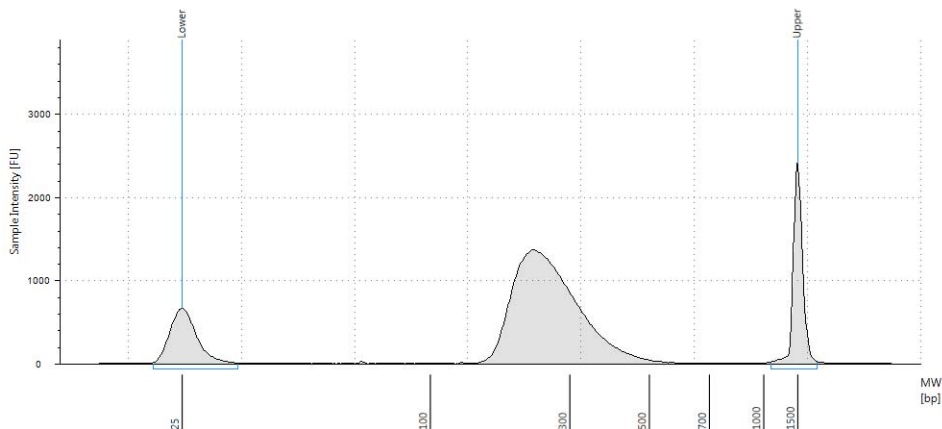

Figure 9 Analysis of amplified library DNA using the Agilent 2200 TapeStation.
- 5 For each sample, measure the concentration of the library (ng/µL) by integrating under the peak at approximately 180 to 550 bp. A sample electropherogram is shown in Figure 9.